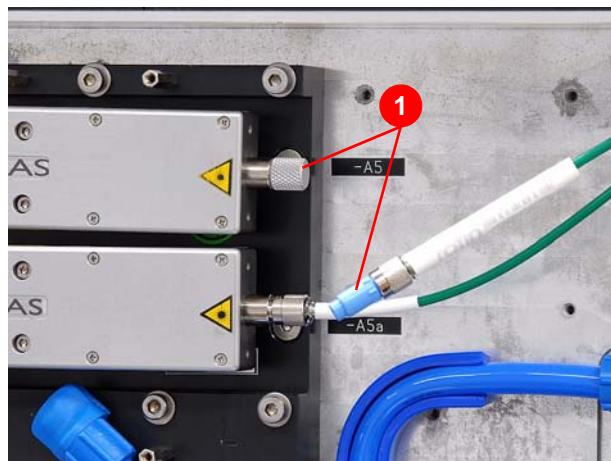

Figure 7.69 Disconnecting the glass fiber line from the diode module
5. Attach dust protection caps to the glass fiber(s) and the sockets on the diode module (1) (Figure 7.69).